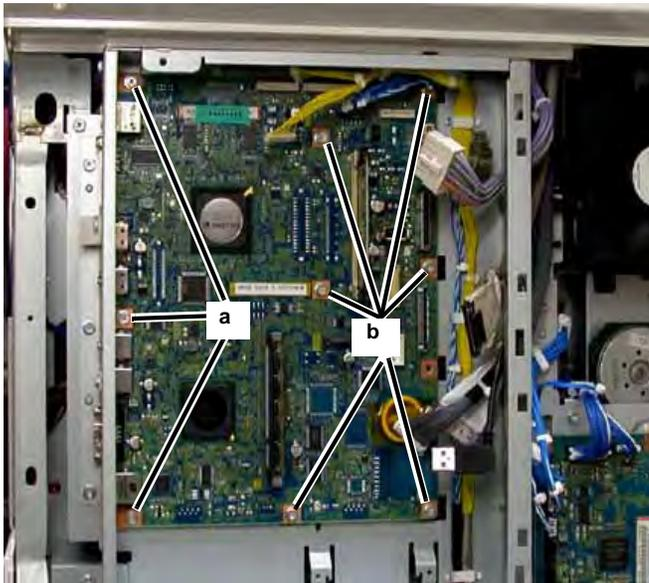

Figure 5 Removing Screws
6. Perform the following (Figure 5).
- a. Remove the Screws (3) on the left side of the PWB.
- b. Loosen the center and right side Screws (6).